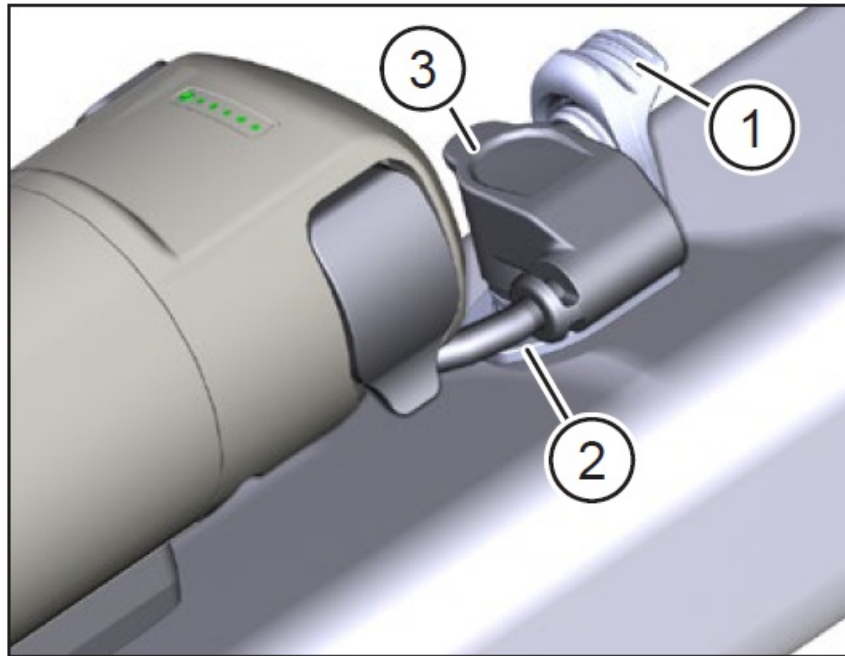

Fig. 8: Connect the connection cable to the charging port
- Unfold the cover (Pos. 1 in Fig. 8) of the charging port (Pos. 2 in Fig. 8) on the e-bike frame.
- Align the connector (Pos. 3 in Fig. 8) of the connection cable so that the connector coding of the plug and charging port match.
- Insert the plug into the charging port and secure the plug with the cover (Pos. 1 in Fig. 8).